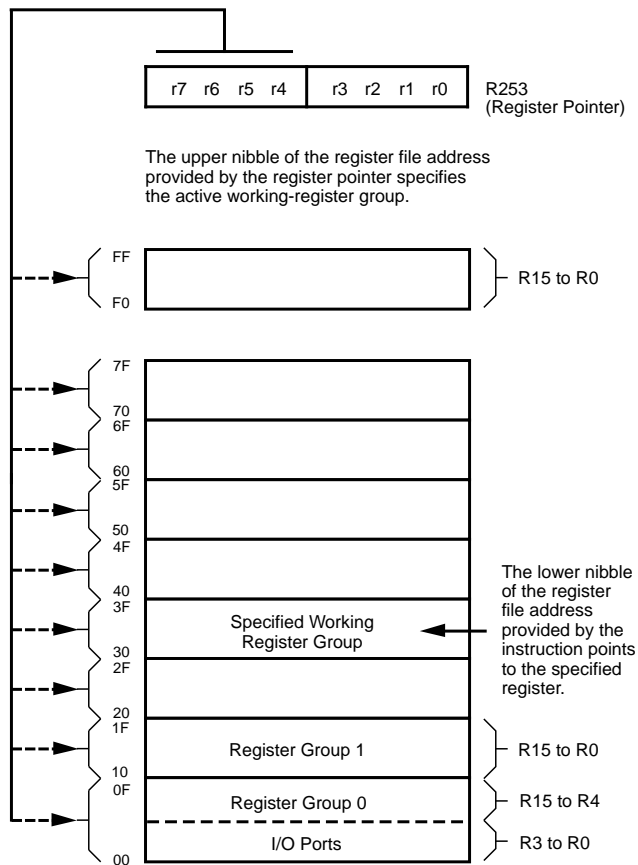

Figure 13. Register Pointer
**Register File.** The Register File consists of three I/O port registers, 61 general-purpose registers, and 12 control and status registers R0-R3, R4-R127 and R241-R255, respectively (Figure 12). General-purpose registers occupy the 04H to 7FH address space. I/O ports are mapped as per the existing CMOS Z8. The instructions can access registers directly or indirectly through an 8-bit address field. This allows short 4-bit register addressing using the Register Pointer. In the 4-bit mode, the register file is divided into eight working register groups, each occupying 16 continuous locations. The Register Pointer (Figure 13) addresses the starting location of the active working-register group.